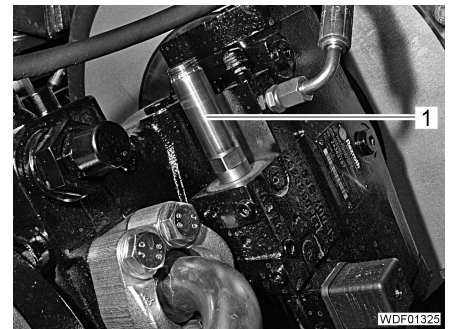

Fig. 570 Core
- Unscrew the core (Fig. 570,1).